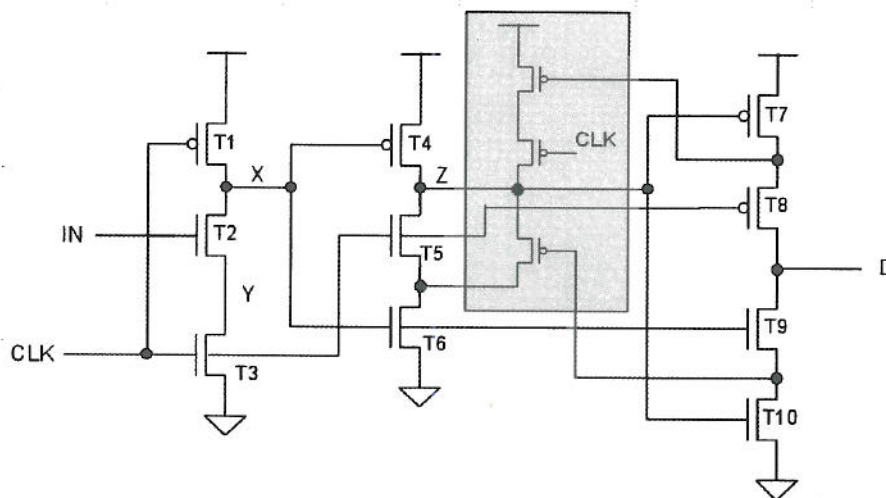

Figure 6.3
- c) What is the effect of adding the shaded circuit to the latch as shown in Figure 6.3?